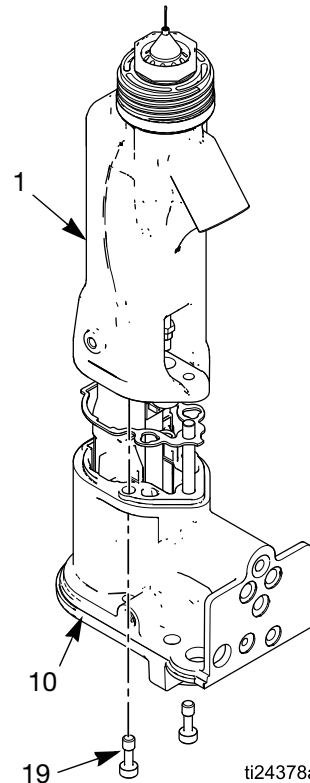

FIG. 29. Barrel Removal
4. Loosen the two screws (19). See FIGURE 29.
5. Hold the gun body (10) with one hand and pull the barrel (1) straight off the body. See FIGURE 29.